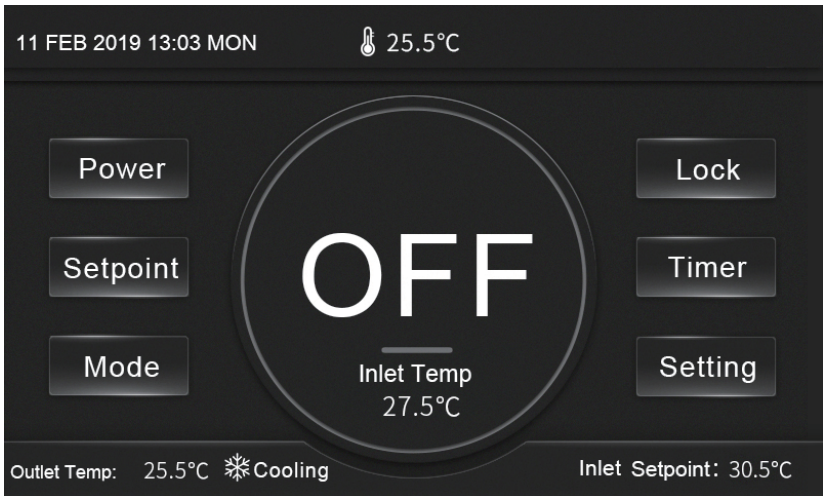

Fig.2 Power-off interface
(2) Mode selection
In the main interface, press “Mode” button ③ to select cooling or heating mode. And then status bar ⑧ will display the current operating state. While in the main interface of power-on (Fig. 2), the display circle ⑨ colour will be changed according to the operating state (cooling: blue; heating: red).
(3) Target temperature setting